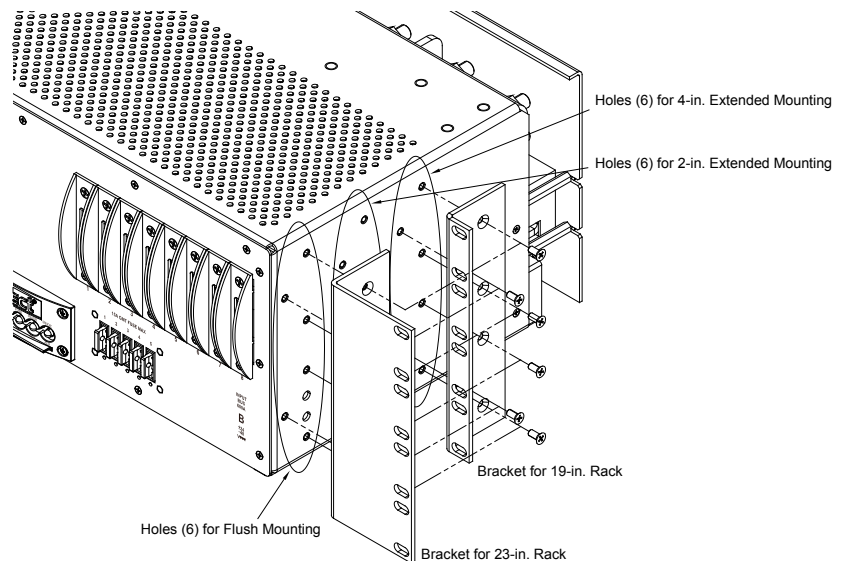

Figure 4 - Bracket Orientation
1. Use the 12 screws provided to fasten the brackets to the panel as shown in Figure 4.